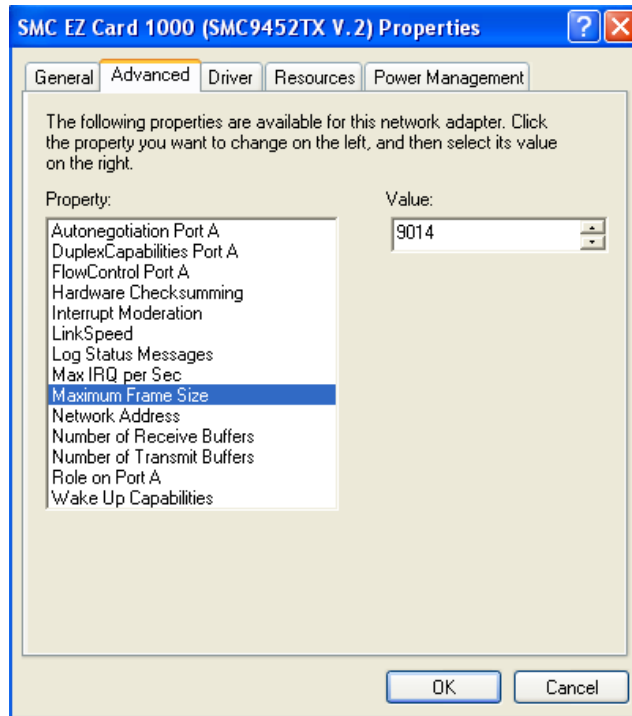

Figure 9. Network card advanced settings.
- From the Properties window select *Configure* then select the *Advanced* tab. See Figure 9.